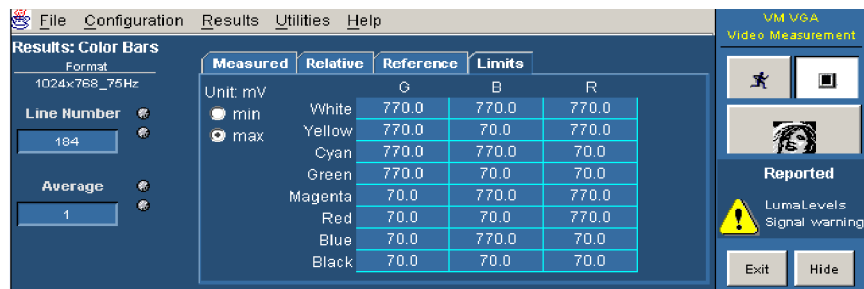

Figure 3-63: Limit values for the Color Bars measurement
- Limit Values** If Limit testing is enabled, you can display the Limit values by clicking the **Limits** tab (see *Taking Measurements with Limit Testing* on page 3-76). The minimum and maximum values are set in the limits file for the supported combination of resolution, refresh rate, and timing standard. Select the **min** option to display the minimum limit values. Select the **max** option to display the maximum limit values. Refer to Figure 3-63.